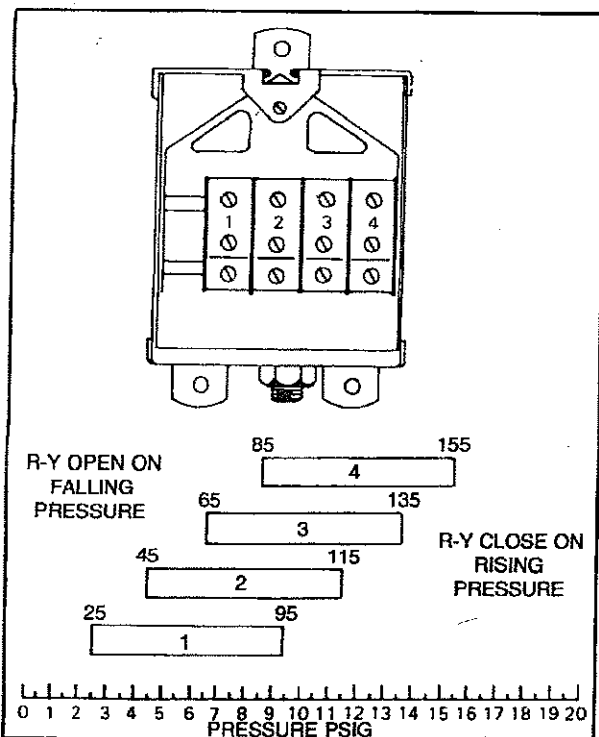

FIGURE 33 - Four-Stage Pneumatic-Electric Switch Operation
The pneumatic-electric switch (PS) in the control panel contains four sets of contacts. In operation, an increasing air pressure from the direct-acting receiver causes the switch contacts to close in sequence. See Table 24 and Figure 33.